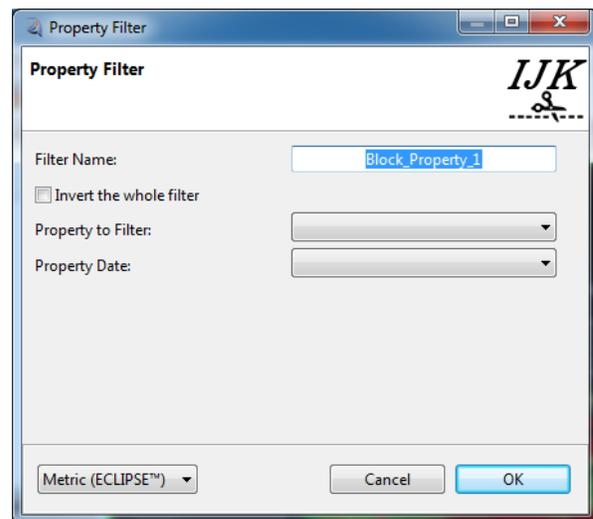
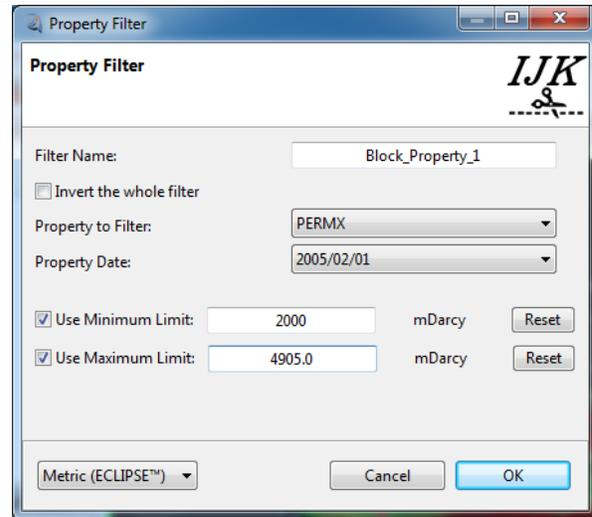

Figure 39 Adding Block Property Filter
Figure 40 Adding Block Property Filter on X-Permeability
*Block Property Filter:* the dialog of the Figure 39 is displayed if user wants to add block property filter. Initially none of the properties are selected which means no filter is added to 3D view. The name of the “Block\_Property\_##” is assigned to the defined block property filter, by default; this name is editable. For adding filter on each property, user must select it using “Property to Filter” combo box; if the property is schedulable user should select the desired date using “Property Date” combo box. For adding filter on each property, user should just check the related box and enter the minimum and maximum values for the property. For example the Figure 40 displays the configurations for adding a